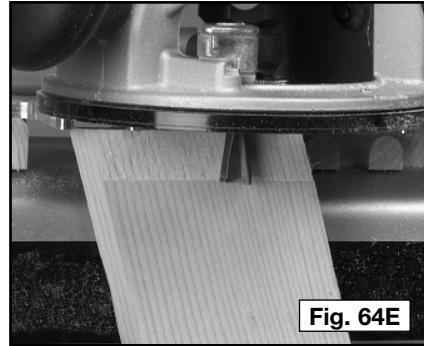

Fig. 64E
- Step 4** - Set the router bit depth to where the sides of the board go off at a slight angle (Fig. 64E).